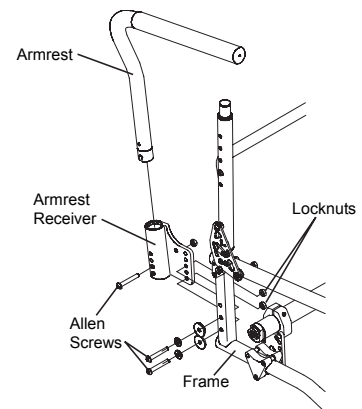

Figure 40
2. Remove the Allen Screw that passes through the armrest receiver. See Figure 40.
2. Remove the two Allen Screws and locknuts that secure the armrest receiver to the frame. See Figure 40.